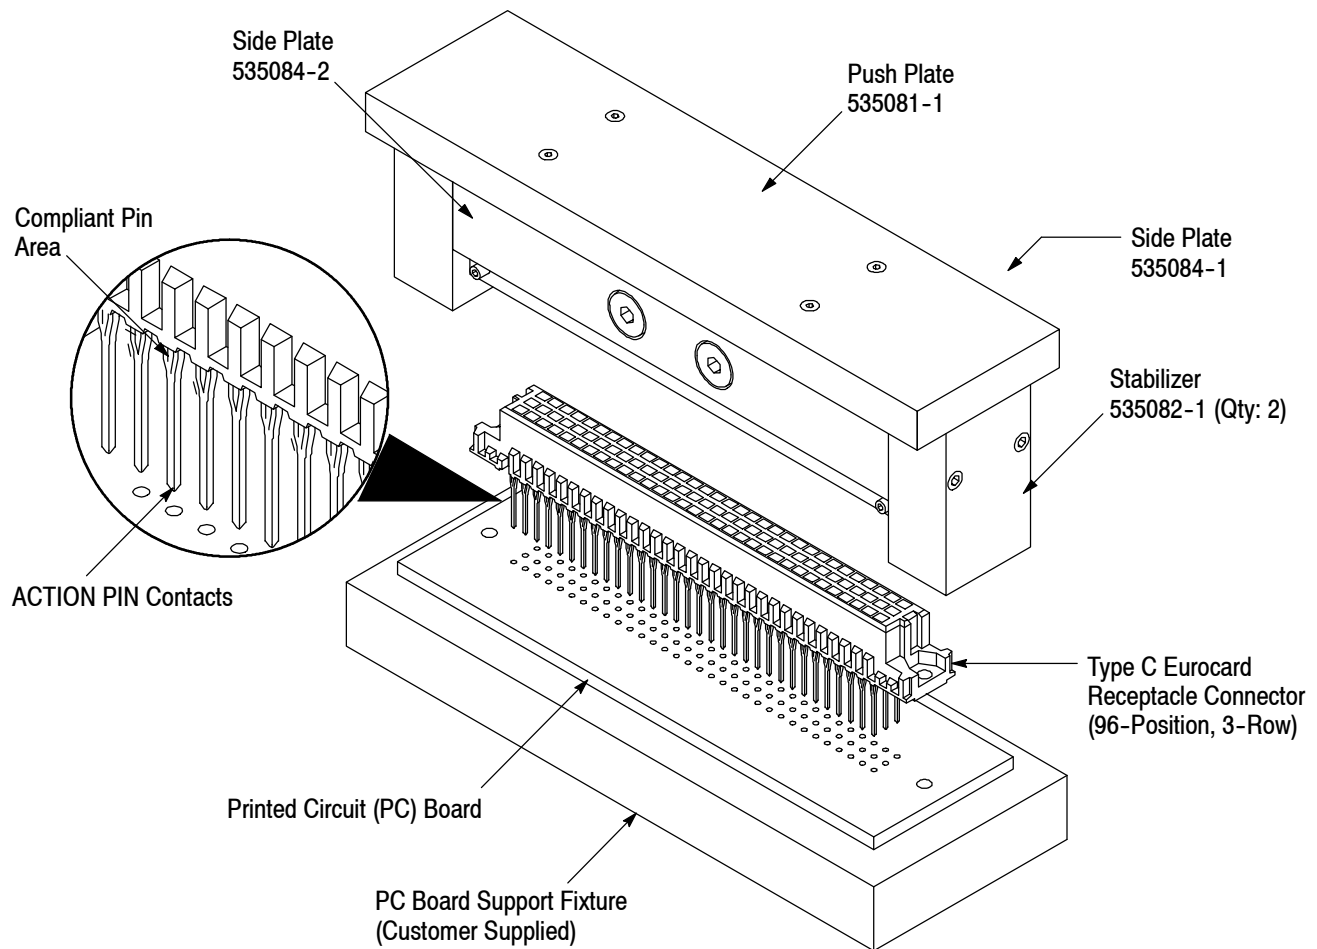

Figure 1
2. DESCRIPTION (Figure 1)
— make sure that the number of rows and positions in the connector is identical to the number of rows and position of rectangular blades of the seating tool (refer to Figure 1)
The parts for the seating tool shown in Figure 1 are customer- replaceable. A complete inventory can be stocked and controlled to prevent lost time when replacement of parts is necessary. Order replacement parts through your Representative, or call 1-800-526-5142, or send a facsimile of your purchase order to 1-717-986-7605. or write to:
- Added pc board support fixture and part numbers of customer-replaceable parts to Figure 1